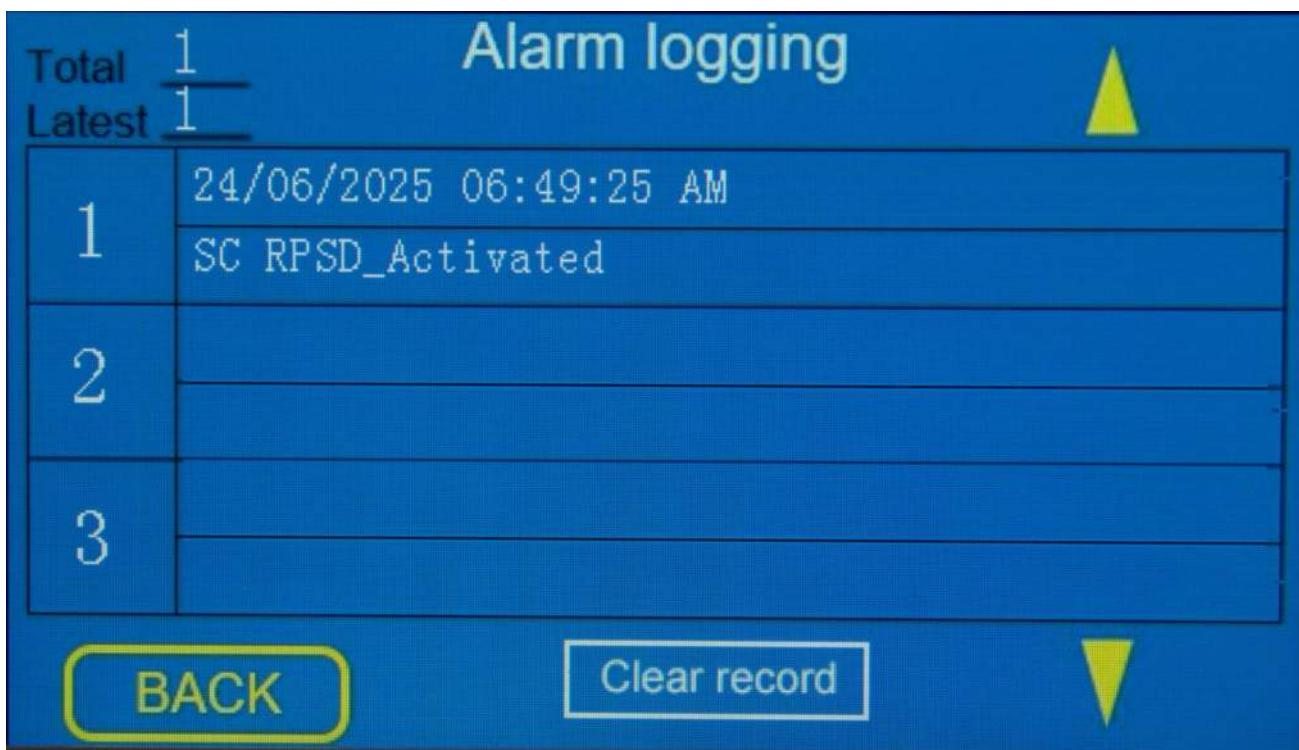

Figure 37: LCD User Interface – History Alarm Page (RPSD Activated)
- Clear the alarm by navigating to the Alarm page and pressing “Clear Record” – See Figure 37.